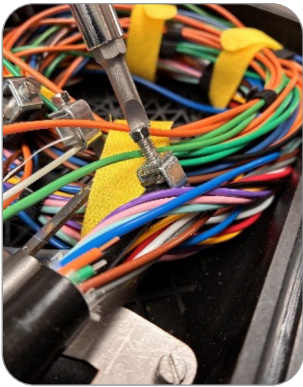

Figure 21
5. Secure the strength member to the strength member clamp and tighten the screw. (Figure 21)